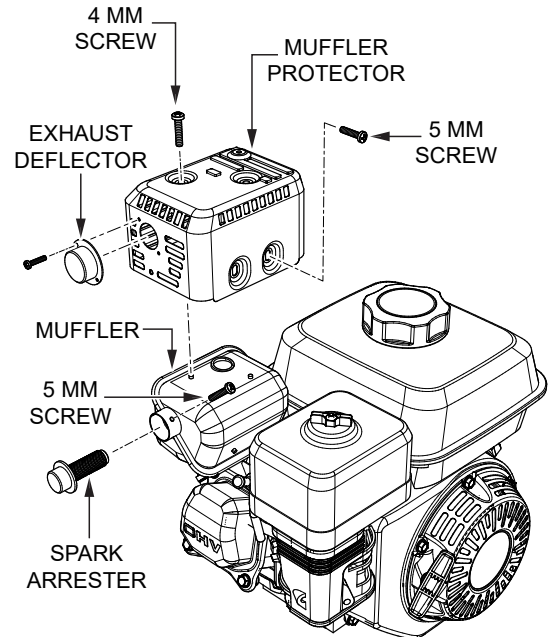

Figure 40. Spark Arrester
1. Remove the three 4 mm screws securing the exhaust deflector (Figure 40) to the muffler protector, then remove the exhaust deflector.
2. Remove the four 5 mm screws from the muffler protector (Figure 40), then remove the muffler protector.